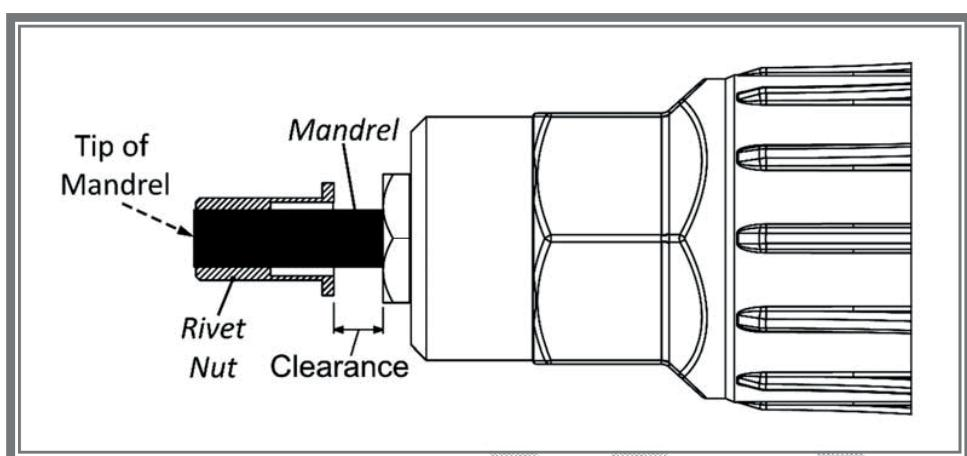

Figure 8
7. Release the trigger of power drill when the tip of rivet nut reaches tip of the mandrel (figure 8).
NOTE: if not using the included mandrel or the recommended mandrel length, or if the rivet nut to be used is shorter or longer than typical rivet nuts, please leave a clearance of 4 – 8 mm between the end of rivet nut and the anvil (figure 8) to allow the drive mechanism to engage sufficiently prior to compressing rivet nut. Not leaving enough clearance could lead to early failure of the drive mechanism.